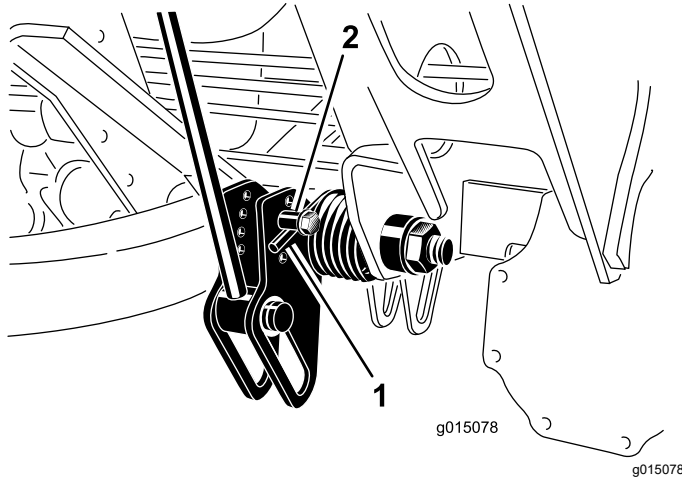

Figure 40
2. Insert a tube or similar object onto the long spring end to relieve the spring tension during the adjustment (Figure 40).
3. While relieving the spring tension, remove the bolt and locknut securing the spring actuator to the bracket (Figure 40).